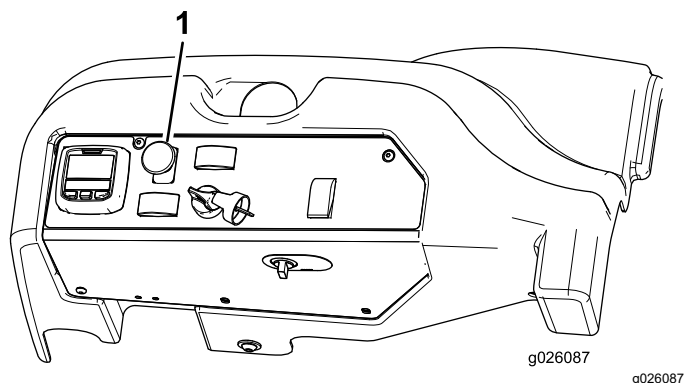

Figure 26
3. Pull up the PTO switch to engage it (Figure 26).